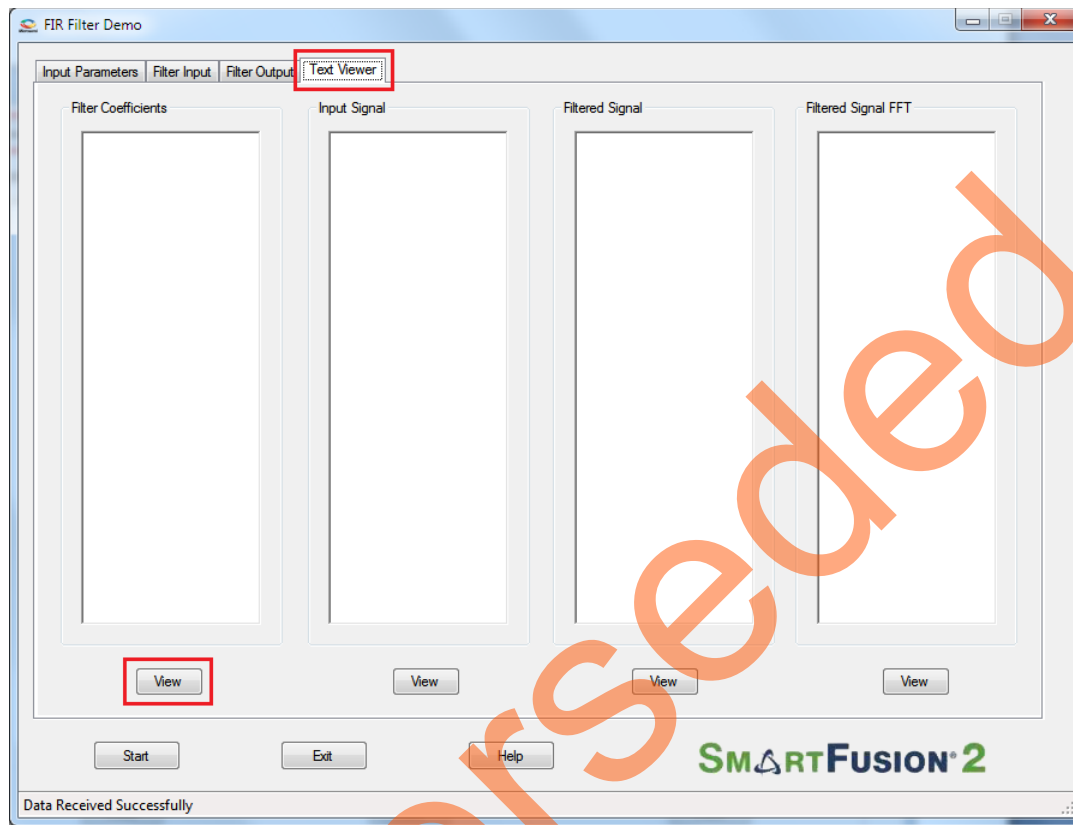

Figure 19 • Text Viewer
10. The filter coefficients, input signal, output signal, and FFT output data values can be viewed in **Text viewer**. Click on the **Text Viewer** tab and then click on the corresponding **View** button as shown in Figure 19.